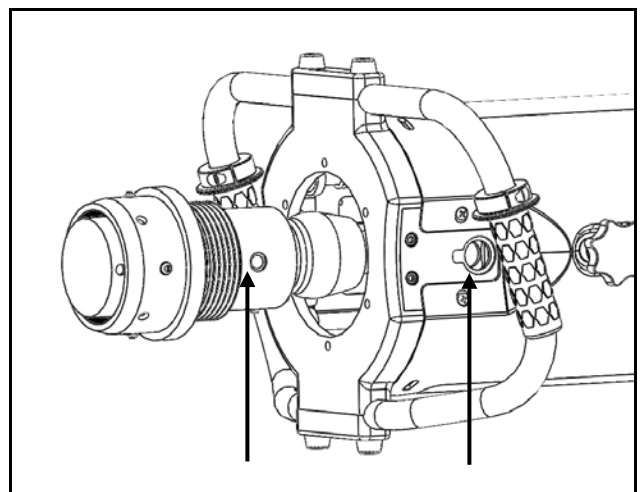

Figure 14 – Piston/Impactor Sub Assembly Reinstallation
1. Slide the Impactor Assembly into the CIRT. Ensure that the holes in the Trolley remain aligned with the holes in the Handle Frame for the Piston Reset Screws (see Figure 14). Push trolley into CIRT until the holes align.